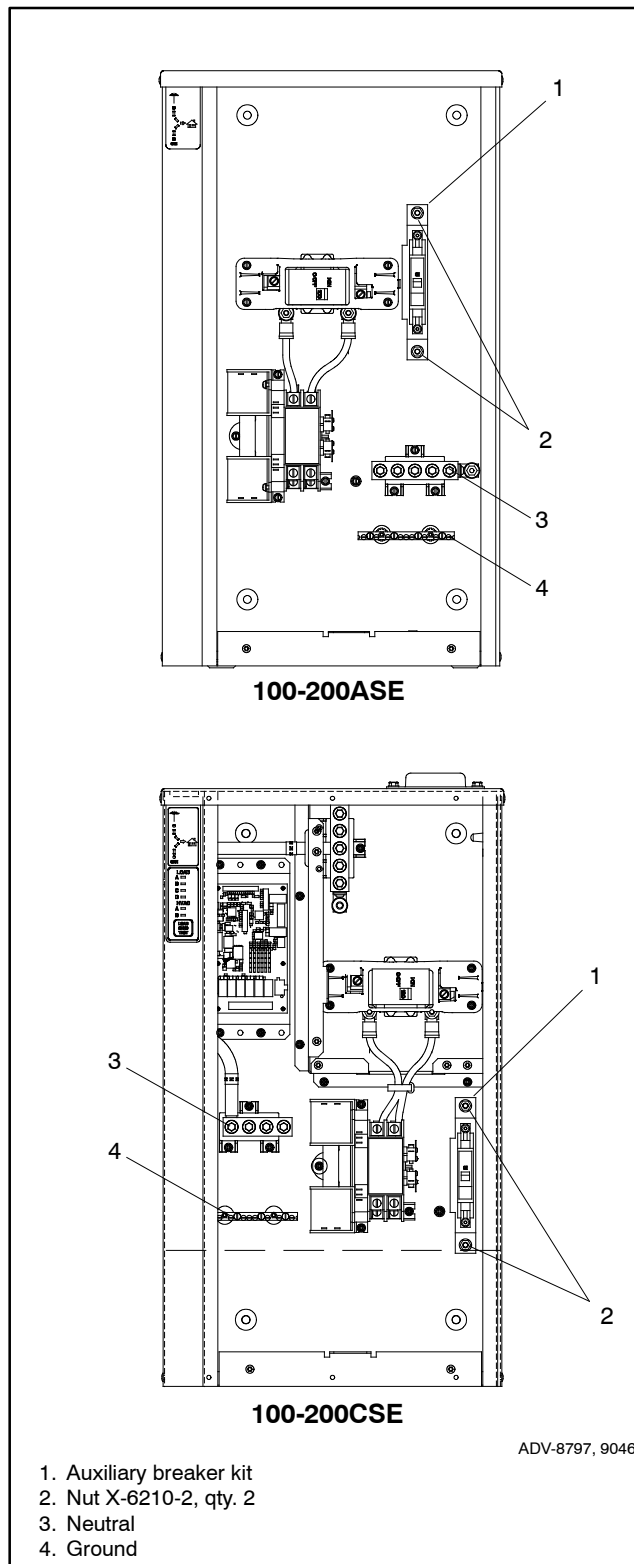
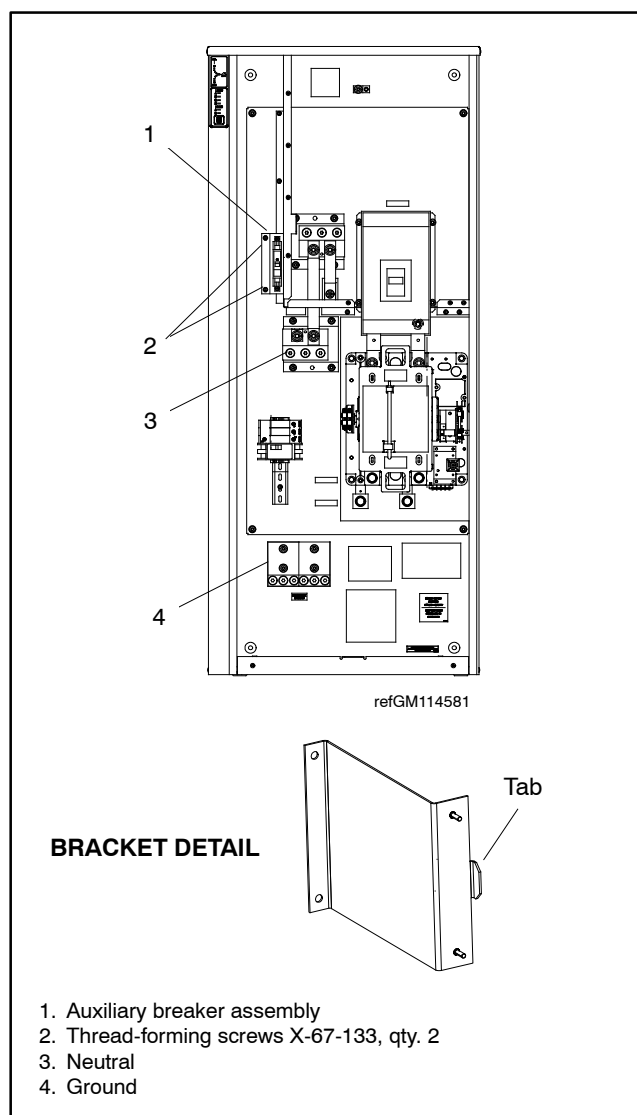

Figure 6 Auxiliary Breaker Kit Mounting Locations, 100-200 Amp SE Models
Figure 8 Aux. Breaker Installation, Revised Design Models 300-400ASEQS4 (and higher) and 300-400CSE
See Figure 6 for circuit breaker locations for 100-200 amp ASE and CSE models.
On revised 300-400ASEQS4 (or higher) and 300-400CSE models, the breaker assembly mounts on the left side of the breaker compartment. See Figure 8.
6. Use customer-supplied #14-#12 AWG wiring to connect the auxiliary breaker to the generator set utility power HOT screw terminal connection or other accessory circuit. Use customer-supplied #14-#12 AWG wiring to connect neutral and ground to the generator set utility power terminals so the circuit complies with NEC and applicable local codes. See Figure 6 through Figure 8 for available neutral and ground connections inside the RXT enclosure.